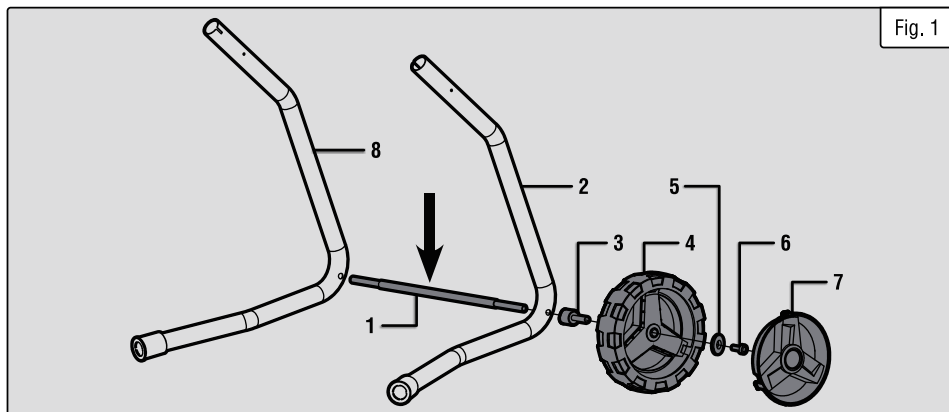

Fig. 1
2. Slide the wheel axle (Fig. 1 - 1) into the hole on the side of the left leg bracket (Fig. 1 - 2) as shown in Fig. 1.
3. Place the bushing (Fig. 1 - 3) onto the axle with the curvature facing the wheel bracket as shown in Fig. 1.
4. Place the wheel (Fig. 1 - 4) onto the axle and bushing.
5. Secure the wheel onto the axle using one washer (Fig. 1 - 5) and one hex nut (Fig. 1 - 6). The included hex wrench can be used to tighten the hardware. To stop the axle from turning while tightening the hardware, fit a screwdriver (not included) into the hole in the middle of the axle (Fig. 1 - Arrow).
6. Snap the wheel cover (Fig. 1 - 7) into place on the wheel to cover the end of the wheel axle. It is okay if there is some clearance between the wheel and the wheel cover.
7. Repeat steps 2 - 6 for the right leg bracket (Fig. 1 - 8) and wheel.